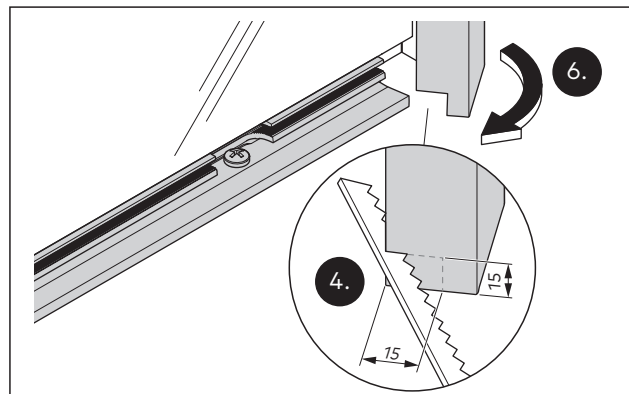

Fig. 39 Saw out a recess e.g. on the vertical cover profile at the lower joint edge
4. For mounting a joint on the vertical cover profile, saw out a 15 mm x 15 mm recess on the glass side (Fig. 39).